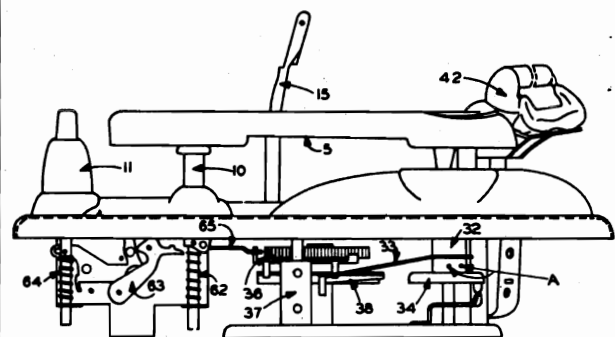

Fig. 1
At the completion of the change cycle, the Actuating Pawl is disengaged from the Main Cam Assembly Actuating Gear (36) by the hook end of the Velocity Trip and Roller Assembly (37) which has been returned to its normal position by the reset points on the Main Cam Drive Gear (Fig. 3). This hook should be adjusted for about $\frac{1}{64}$ " clearance from the bottom of the Main Cam Drive Gear (36), Fig. 1. Greater clearance may permit the pawl to bounce past the hook and re-engage, causing the mechanism to continue to cycle.
Be sure the set screws of (A of Fig. 1) of the pickup arm raising disc are not loose and are properly positioned in the alignment holes as explained in the paragraph on Needle Setdown Indexing.
2. Set the Record Selector Post (42) to the 10" position.
4. Be sure the notch in the Pickup Arm Raising Disc (34) engages the Pickup Arm Raising Lever (40).
5. With a No. 8 Bristol wrench in each of the set screws of the Pickup Arm Raising Disc (35) as indicated in A, Fig. 1, alternately loosen one screw and tighten the other until the needle rests above the record lead-in groove at the desired point.
6. Complete the change cycle of the mechanism and position the Pickup Arm on the "off" button (10). If necessary, bend the tongue of the Pickup Arm Raising Disc closer to or away from the Base Plate Post until the Pickup Arm is correctly seated on the "off" button when the tongue is touching the Base Plate Post.